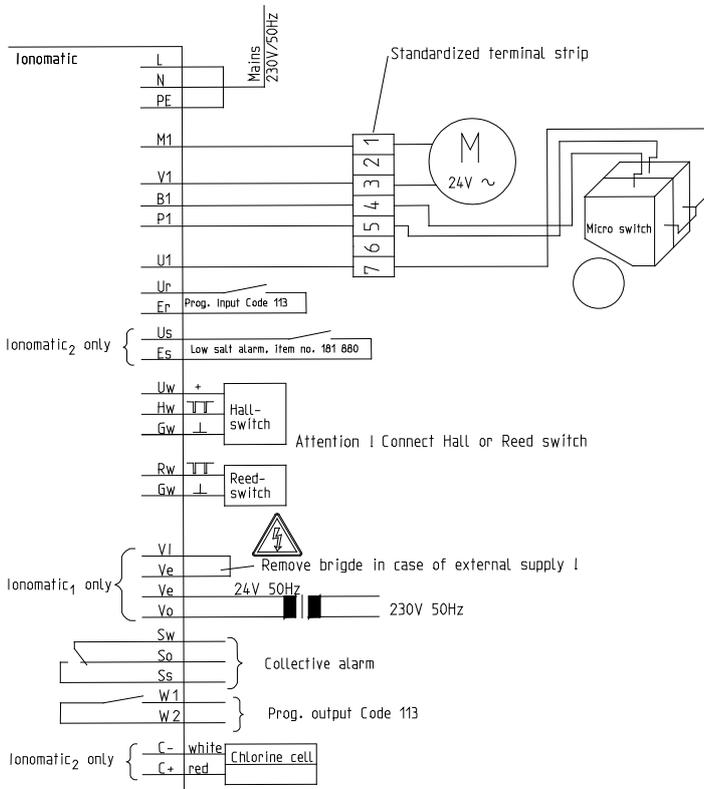

Fig. D-2: Terminal connection diagram GENO-mat-WF
2. Lay a 7-core cable between the control head and control electronics and connect according to the terminal diagram (Fig. D-2).